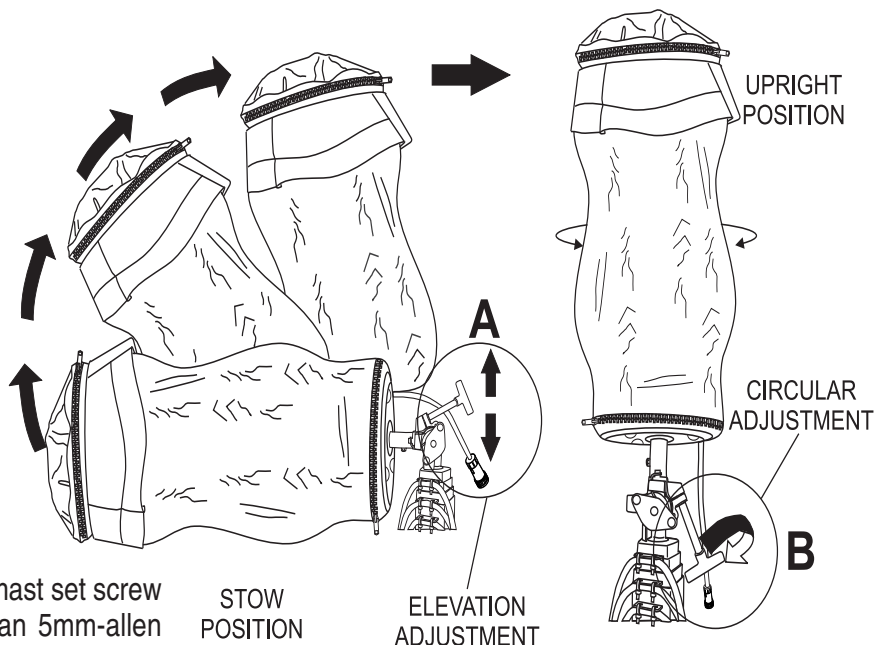

Figure 10. Positioning the Balloon
- Expose the balloon by pulling down on the velcro tabs and unzip the protective cover as shown in Figure 10. Next, fold the protective cover into itself and zip.
- To position the balloon, simply loosen the adjustment lever by turning it counter-clockwise and either push down or up on the lever. Pushing **down** on the lever will cause the balloon to rise. Pushing **up** on the lever will allow the balloon to be lowered. See insert A in Figure 10.